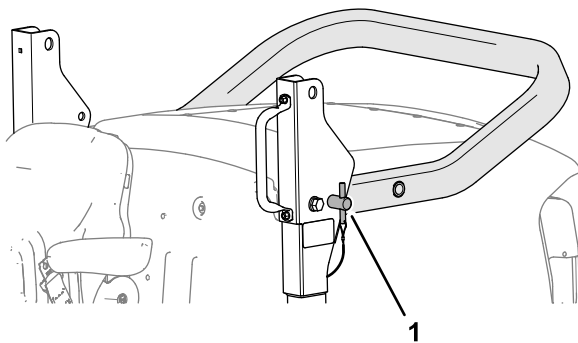

Figure 21
5. Insert the roll-bar pins in the lower holes of the pivot brackets (Figure 21).